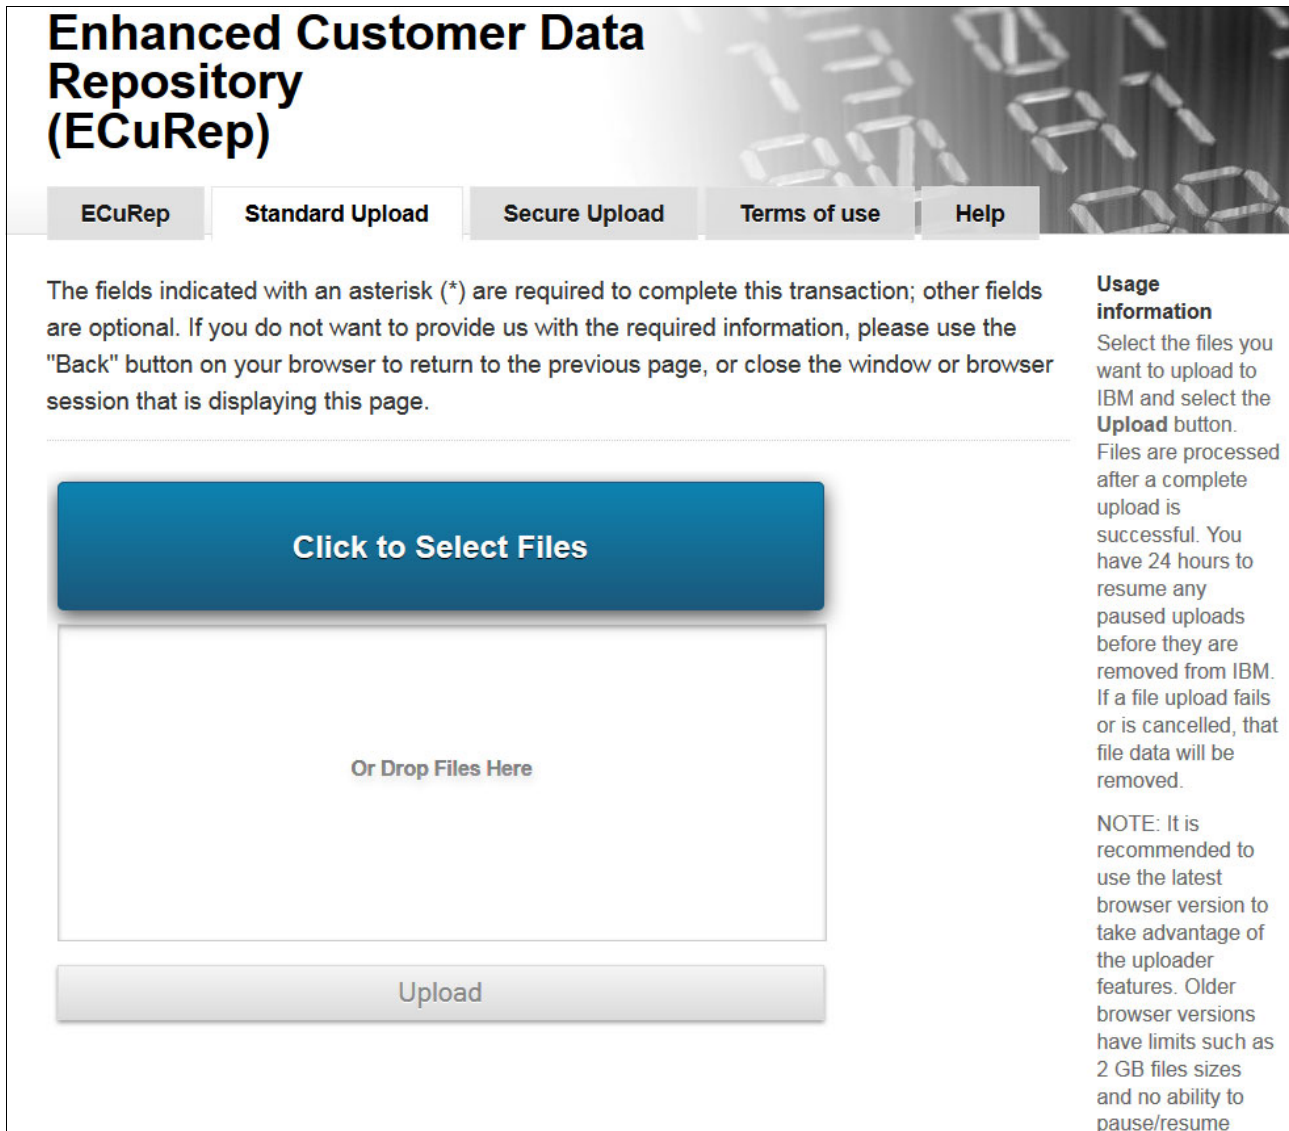

Figure 13-40 File Selection dialog
4. The file selection panel opens (Figure 13-40). Select files and click **Upload**.